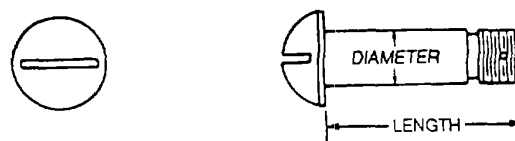

Figure 2-7. Clevis Bolt
k. Clevis Bolts. Clevis bolts, as shown in figure 2-7, are used in applications subject to shearing stress only. They are frequently used as mechanical pins in control systems. The head is round and slotted.